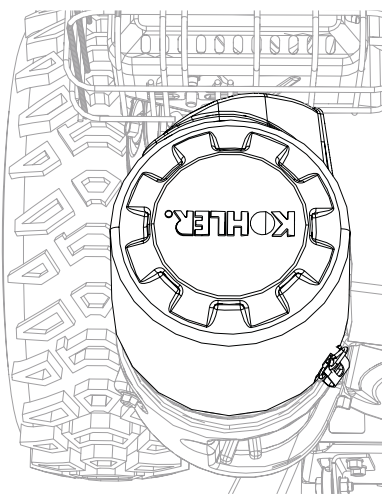

Figure 17
2. Rotate cover to the cold-weather/winter position or summer position. See Figure 17.